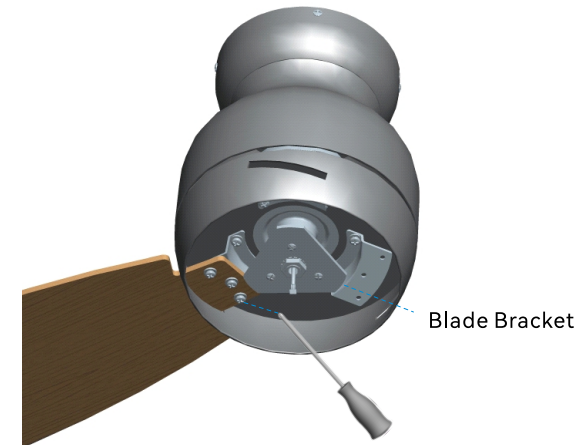

Fig. 6.1
6.1 Locate 9 blade attachment screws and washers in the hardware pack. Slide blade through lamp cover and align three blade holes with the screw holes of the blade bracket and fasten blades with the screws and washers as shown in Fig. 6.1.